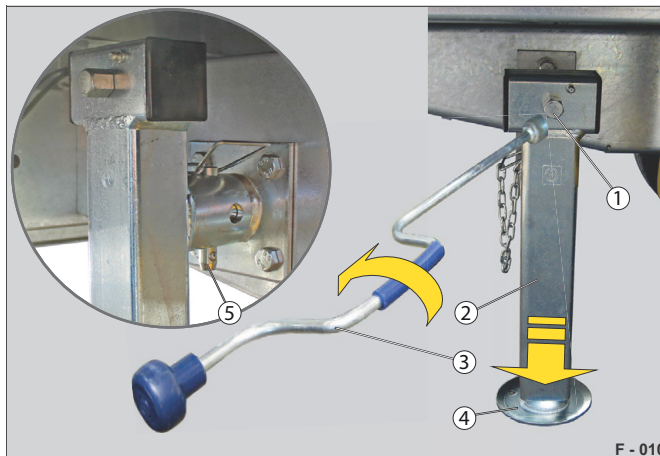
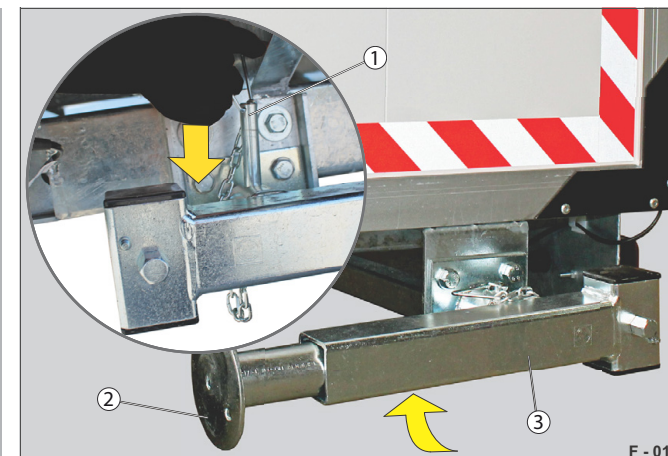

Fig. 33 Telescopic crank supports, support position
Fig. 34 Swivelling up support
- Pull out the plug pin (Fig. 33 /5).
- Swivel down the support (Fig. 33 /2).
- Insert the crank handle (Fig. 33 /3) into the crank base (Fig. 33 /1).
- Wind down the adjustable support (Fig. 33 /4).
- Wind up the adjustable support (Fig. 34 /2) all the way up with the crank handle (Fig. 33 /3).
- Pull out the plug pin (Fig. 34 /1).
- Slowly swivel the support (Fig. 34 /3) up.